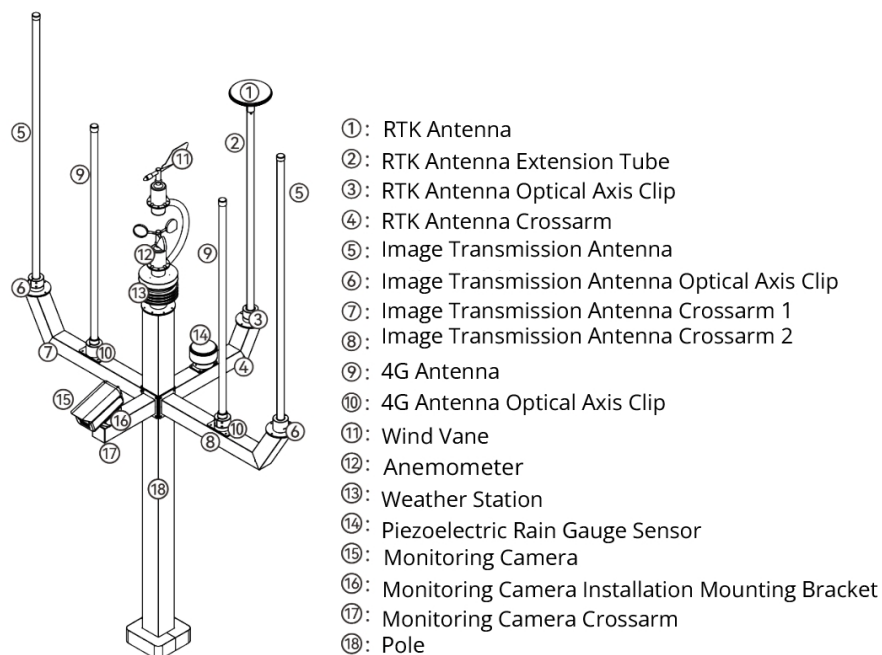

Fig 5-4 Pole Structure
1. Take out the 5m long 485 communication power cable from the packaging box, and pass the end with (2) quick waterproof plugs through the bottom of the pole from the packaging box, where the quick waterproof plug of the weather station passes through to the top of the pole to be connected to the reserved plug of the weather station, while the quick waterproof plug of the piezoelectric rain gauge sensor passes through the side of the pole from the side of the pole where the Crossarms are installed.
3. Take out the anemometer from the packaging, connect and tighten the socket at the anemometer end to the plug in the weather station, and fix the anemometer as shown in Figure 5-4 using M4x12 Allen socket combination screws.
4. Take out the wind vane from the packaging, connect and tighten the socket at the wind vane end to the plug in the weather station, and fix the wind vane as shown in Figure 5-4 using M4x12 Allen socket combination screws and M4 anti-loosening nuts.
4. Use four M5x12 Allen socket combination screws to fix the image transmission antenna crossarm to the pole, as shown in Figure 5-4.